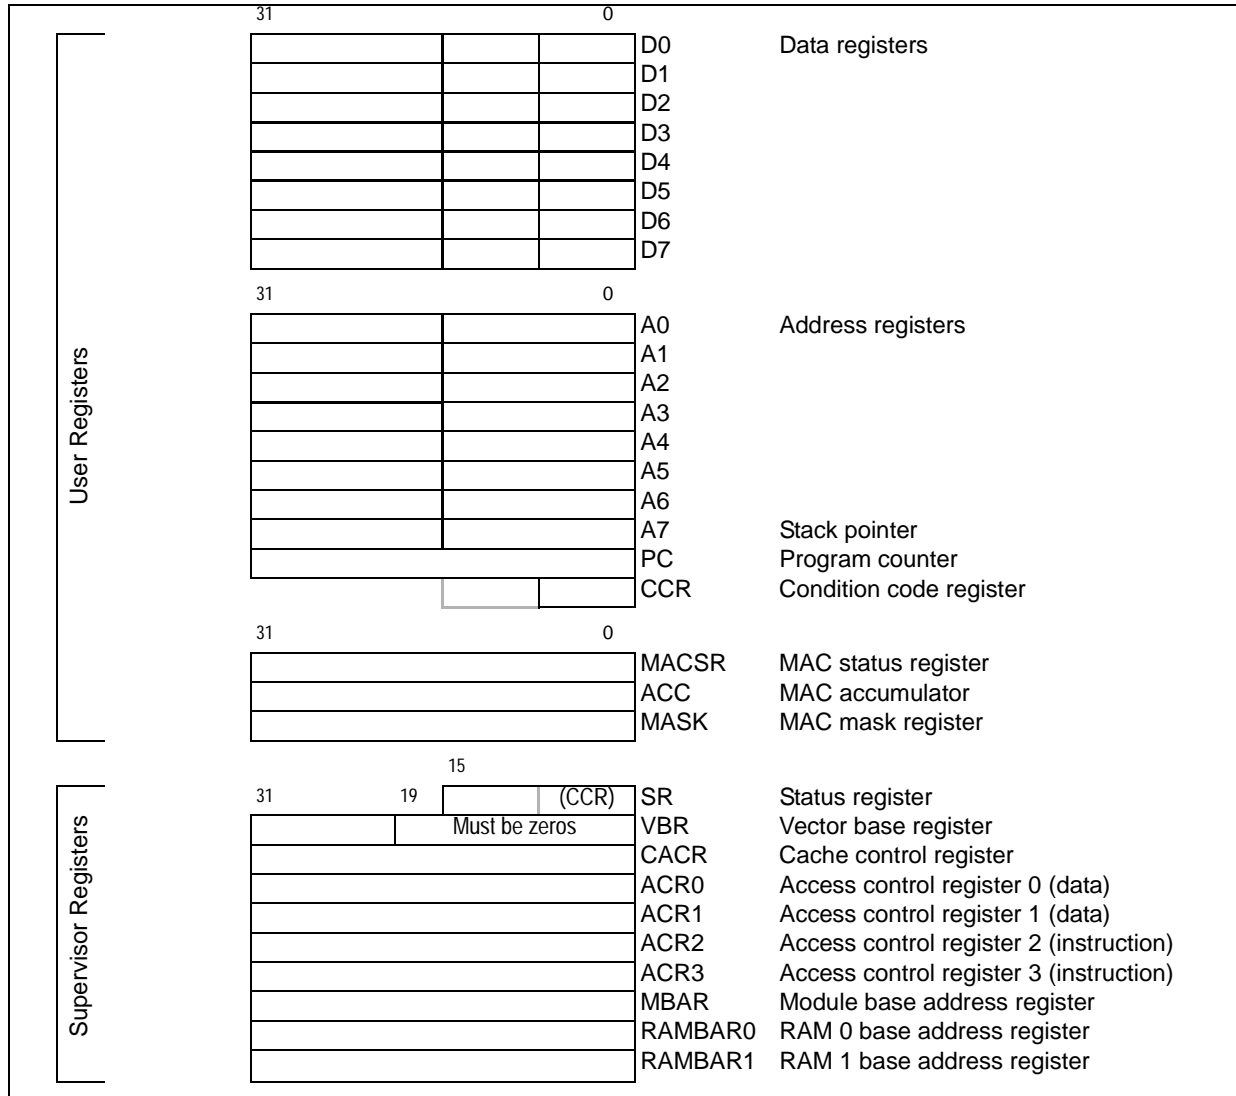

Figure 4. ColdFire MCF5407 Programming Model
Figure 4 shows the MCF5407 programming model.
The user programming model, shown in Figure 4, is summarized in Table 1.
Status register (SR)	The upper byte of the SR provides interrupt information in addition to a variety of mode indicators signaling the operating state of the ColdFire processor. The lower byte of the SR is the CCR, as shown in Figure 4.